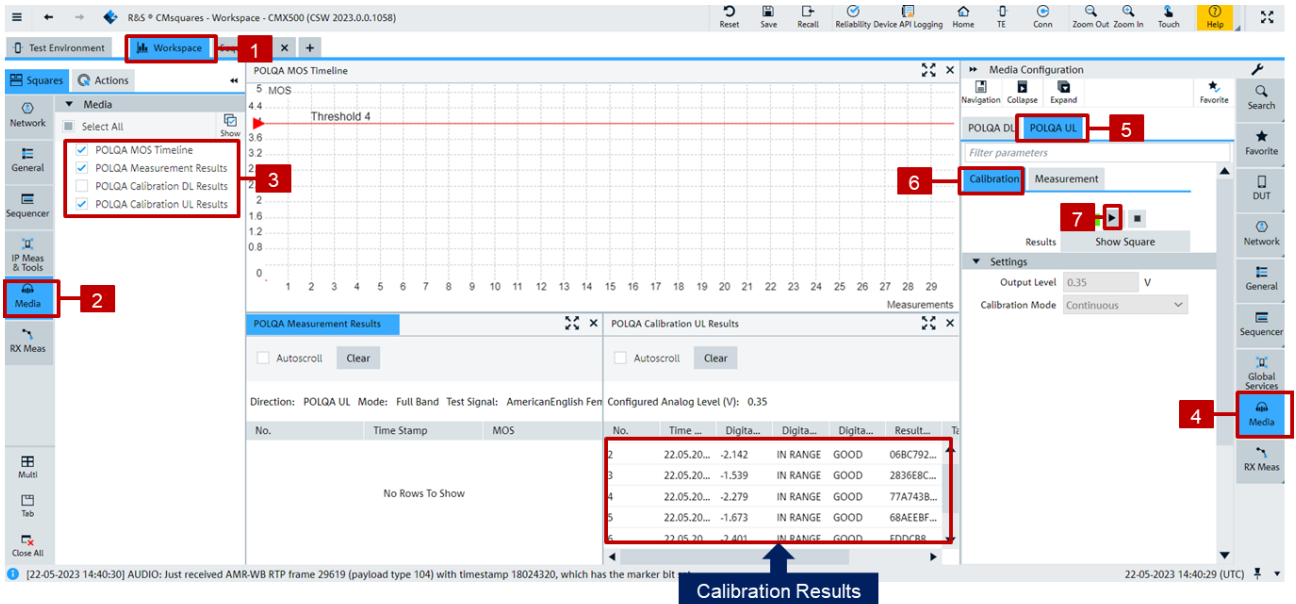

Figure 4-10 Perform POLQA UL calibration
3. Perform POLQA UL calibration with the steps indicated in Figure 4-10